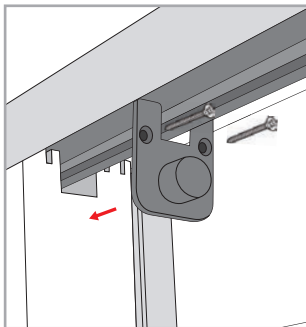

Figure 21: Top rail stop plate.
- Step 7** - Line up the rear side stop plate (top) and screw the plate in place as shown in Figure 21.